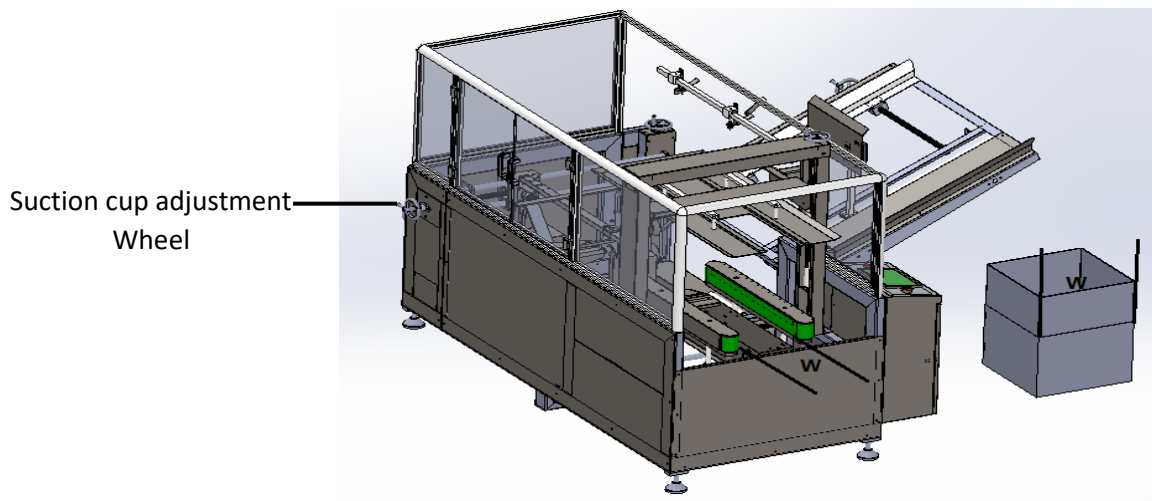
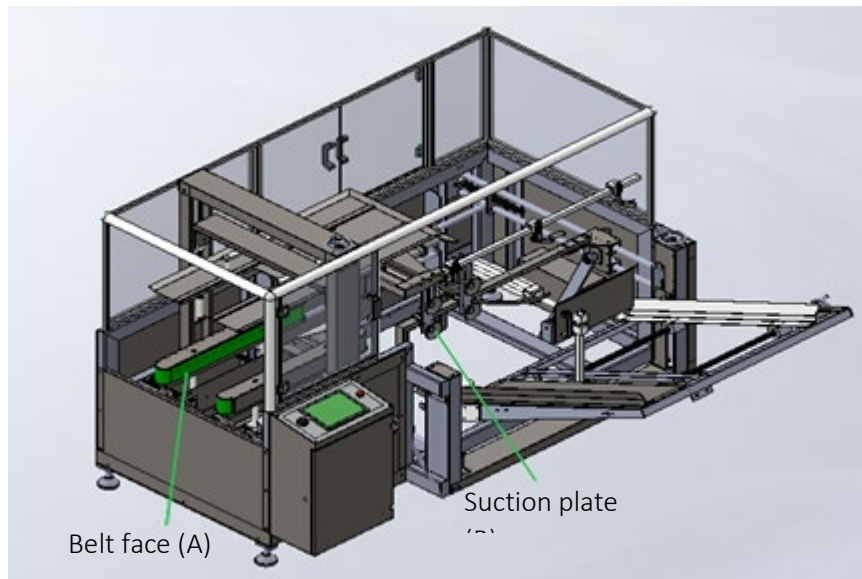

Figure 2
Figure 3.
- 1) Fold a carton to size leaving the flaps on one end open (see fig.2)
4) Next, use the hand wheel in figure 2 to adjust the suction cup plate, lining it up with the belt face as seen in Figure 3. **The carton push arm will fail to push the case through the machine if this isn't set properly and the case will jam.**